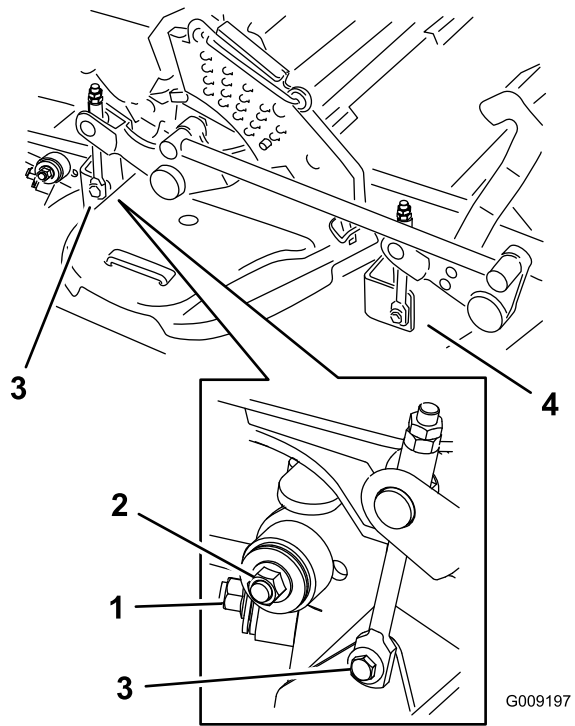

**Figure 98**
5. Lift up the floor pan and insert a ratchet into the square hole in the deck idler (Figure 98).
6. Rotate the deck idler clockwise and remove the mower belt (Figure 98).